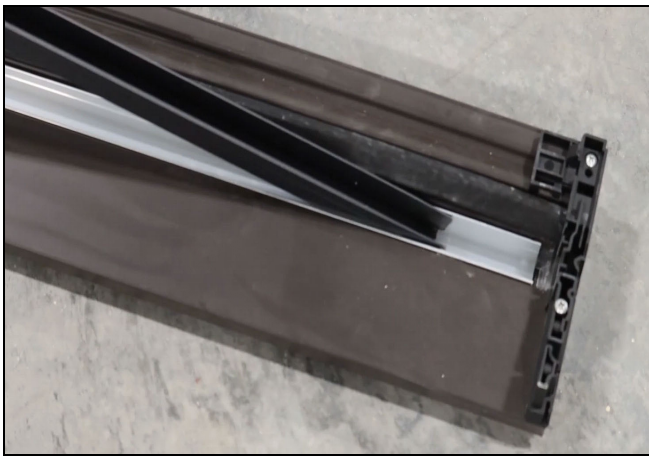

Figure 72
10. Doors with spliced sills will have two vinyl insert pieces. Determine their location and install in the sill. See Figure 72